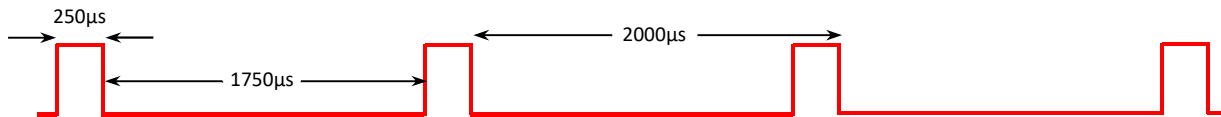

Figure 17.27. A square wave made up of a train of pulses. What is the pulse width, period of the wave, and its duty cycle?
- 17-6. Examine the square wave shown in Figure 17.27 below. Give the **pulse width** of the pulses, the **period, T** , of the wave, and the **duty cycle** of the wave. Use appropriate units. Express the duty cycle as a percentage.
- 17-11. Fill in the blanks of the following code with values that could be used to create the square wave shown in Figure 17.27 (see previous page) with the Teensy's signal pin 8. Assume that the signal pin has been properly placed in **OUTPUT** mode.
- 17-12. Fill in the blank of the following code with values that could be used to create the square wave shown in Figure 17.27 (see first page) with the Teensy's signal pin 9. Assume that the signal pin has been properly placed in **OUTPUT** mode.
- 17-13. **[INTENSIVE ONLY]** Explain why it is possible to use the **analogWrite()** command to create the square wave shown in Figure 17.27 (see first page), but it cannot be used to create the wave shown in Figure 17.26 (see first page).